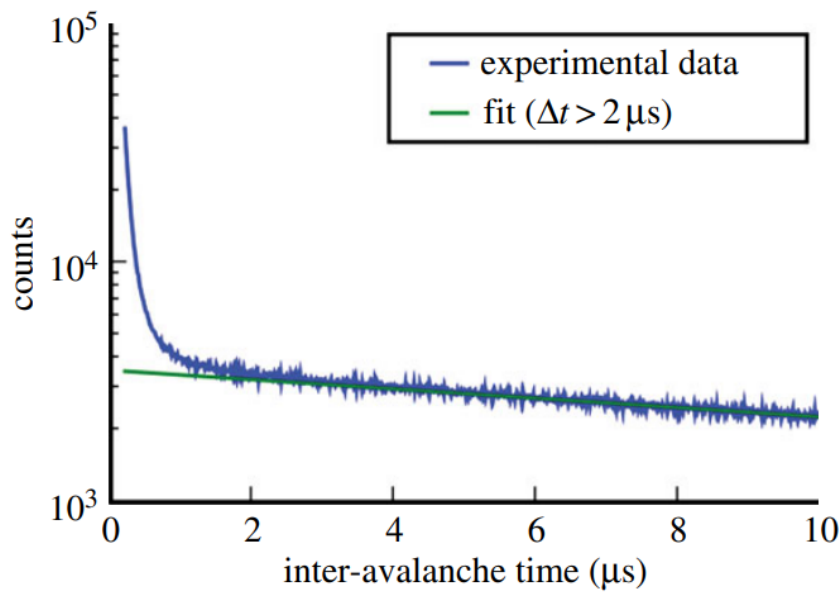

Figure 1: A histogram of inter-avalanche arrival times, along with an exponential fit.
With the piece of Matlab code you will insert, a similar curve will be obtained as provided in Figure 1. Then, a fitting procedure should be performed, which will represent the inter-avalanche time behavior according to Poisson statistics in case of no afterpulsing. Finally, the afterpulsing probability (APP) will be defined/calculated as the area between the experimental data and the exponential fit curve divided by the total area under the experimental data.
- 30) Plot the total number of counts vs. pulse distance time in log scale (see Figure 1).